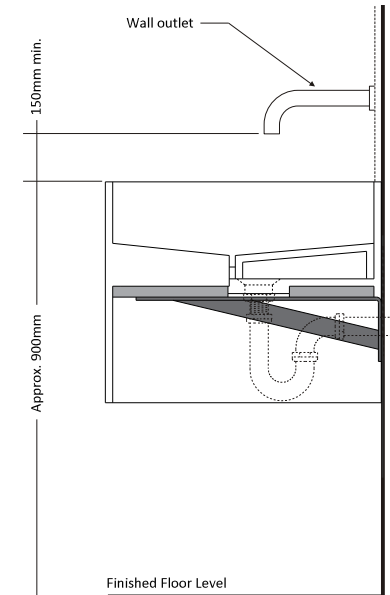

Figure 5.
5. Place waste through the washplane with seals in place, hand-tighten lock-nut to secure waste in basin. (See figure 5).